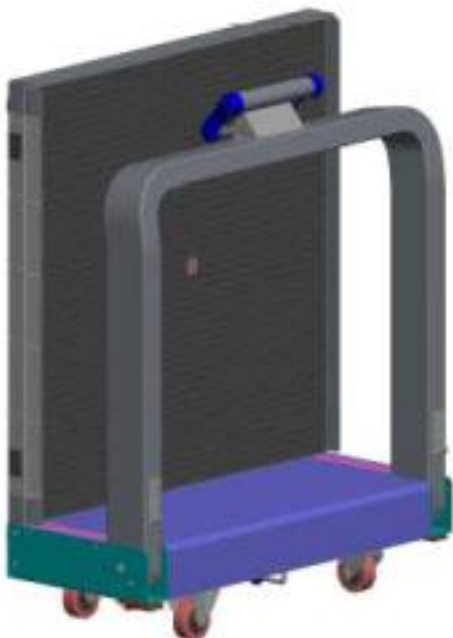

Fig. 1 Scale Ready for Transportation
5. Once the tower is locked into place the scale can be tilted onto the four wheels at the rear of the platform. See Figure 1.